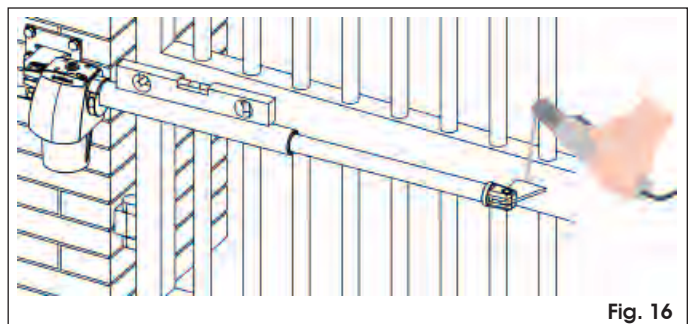

Fig. 16
9. Bring the operator pipe to the leaf until the front bracket rests against the leaf (Fig.16),
10. Using a level, check if the operator is perfectly horizontal and provisionally secure the front bracket with two weld spots (Fig. 16.).